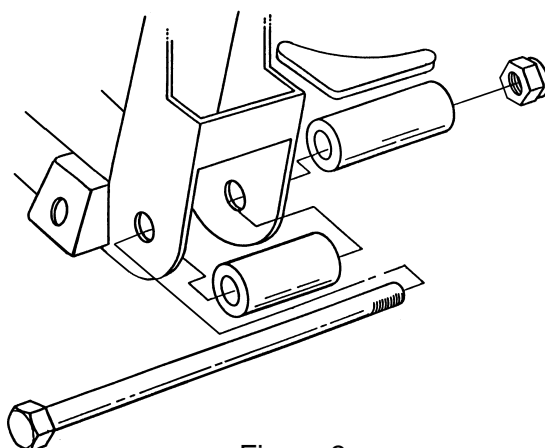

Figure 3
5. If you purchased a complete I.F.S. Package from HEIDTS, it was supplied with Full Lower A-Arms. Begin by installing the Spacers onto the crossmember. The holes where the lower control arms attach to the Crossmember must be enlarged to 5/8". Mount the Crossmember Spacers and the Rear Spacers which were supplied with the Lower Control Arms onto the Crossmember as shown in Figure 3 using the supplied Inner Bushing Bolts, Nuts and a temporary spacer under the Nuts. DO NOT use the A-Arms for this operation as the welding heat will melt the rubber bushings. Tighten the Bolts and Nuts tight. Weld the Rear Spacers to the Crossmember all around. Weld the Crossmember Spacers as far as possible inside the crossmember on both ends. Position the Gussets horizontally, not vertically, against the Rear Spacers and the back of the Crossmember. Weld Gussets to Spacers and Crossmember. When it cools, remove the bolt.